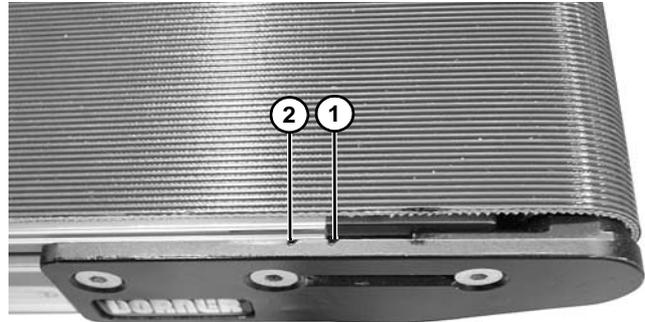

Figure 55
2. Adjust headplate assembly so end of conveyor frame aligns with or between the headplate tensioning marks (Figure 55, item 1 & 2). Replace belt if proper tensioning can not be obtained while aligning the end of the conveyor frame with or between the tensioning marks. See NOTE.